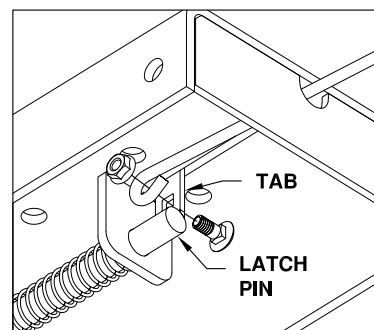

Figure F2: Handle Installation
2. Secure the handle to the pin with the $\frac{5}{16}$ " X $\frac{3}{4}$ " carriage bolt and $\frac{5}{16}$ " locking flange, see Figure F2. Note: The included $\frac{5}{16}$ " cap screw can replace the carriage bolt if wrench access on the "cab side" of the handle is limited. Tighten the nut until it is secure. Do not over-tighten and deform the handle eyelet.